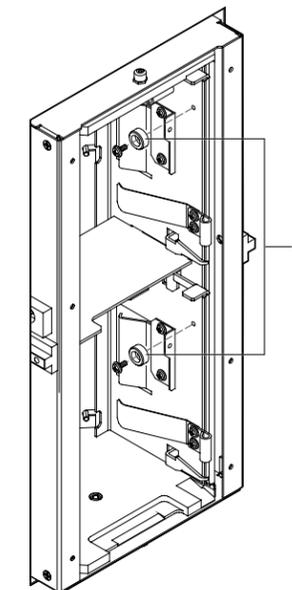

Figure 4: Installing the load port keys
1. Install the two load port keys 1 on the right wall of the load port as shown in Figure 4, using two of the screws provided in the upgrade kit.
5. Remove the upper and lower load port keys. (See Figure 4.)